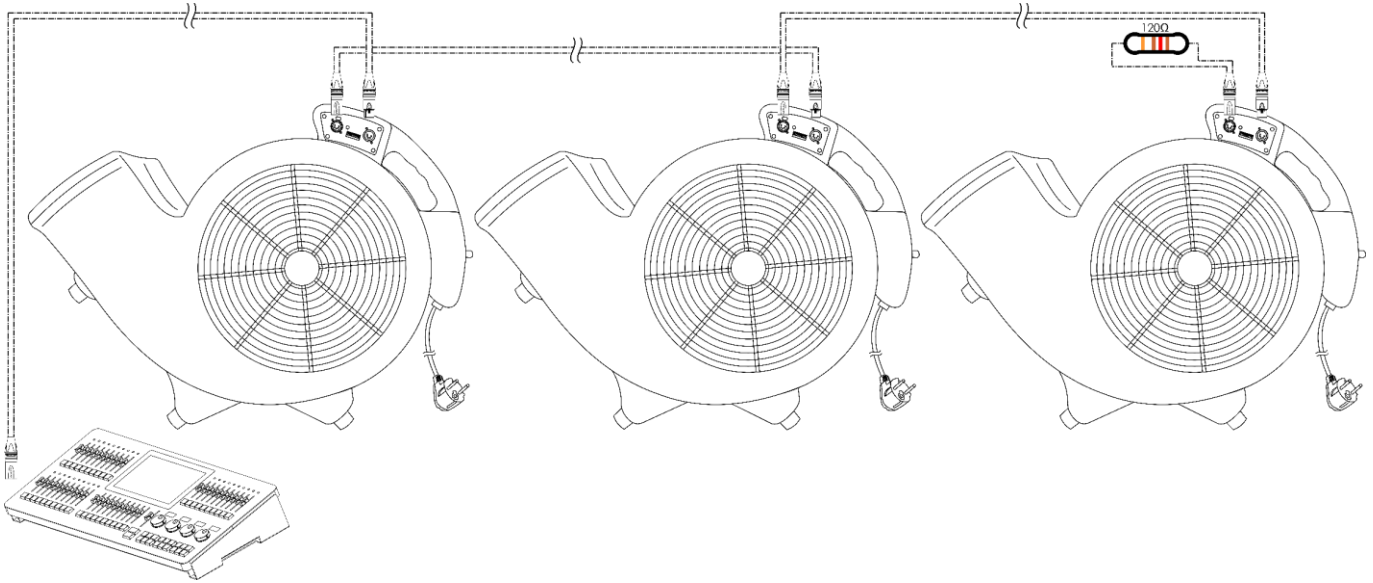

Fig. 02
- 04) Link the devices as shown in Fig. 02 on page 9. Connect a DMX signal cable from the first device's DMX "out" socket to the second device's "in" socket. Repeat this process to link the second, third, and fourth devices.